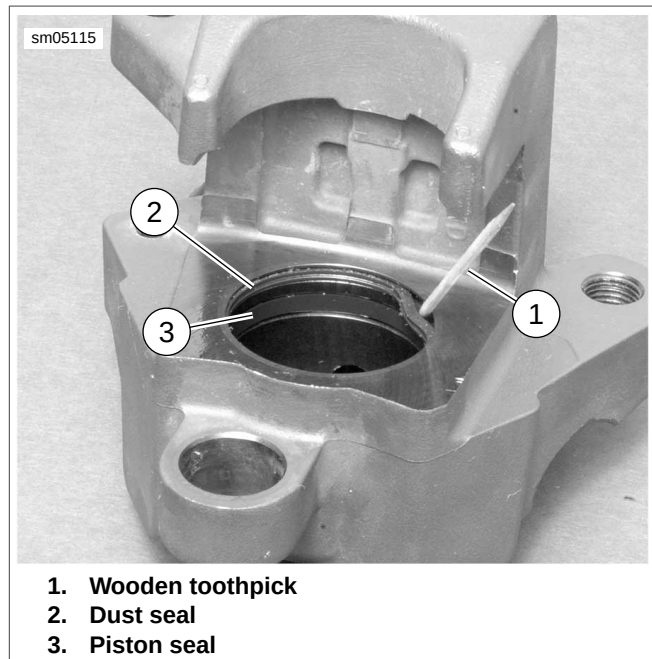

Figure 2-141. Caliper Seals
6. See Figure 2-141. Install a **new** piston seal (3) and a **new** dust seal (2) into piston bore.